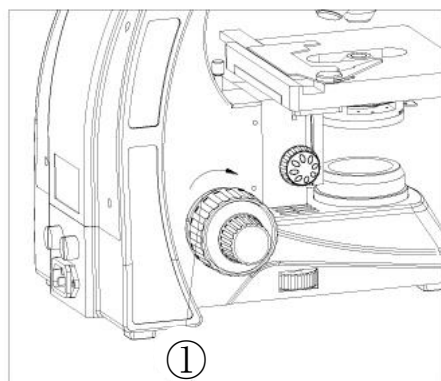

Fig. 14
If the handle is very heavy when focusing or the specimen leaves the focus plane after focusing or the stage lowers by itself, please adjust the tension adjustment ring ①. Located on the left side of the stand between the coarse adjustment knob and the vertical arm is an adjustable tension control dial that is preset at our facility. This allows the user to adjust the coarse control tension to their individual preference. (Fig. 14).